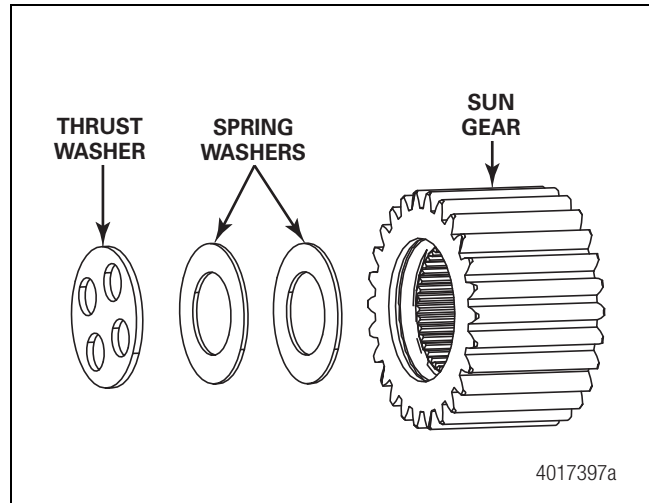
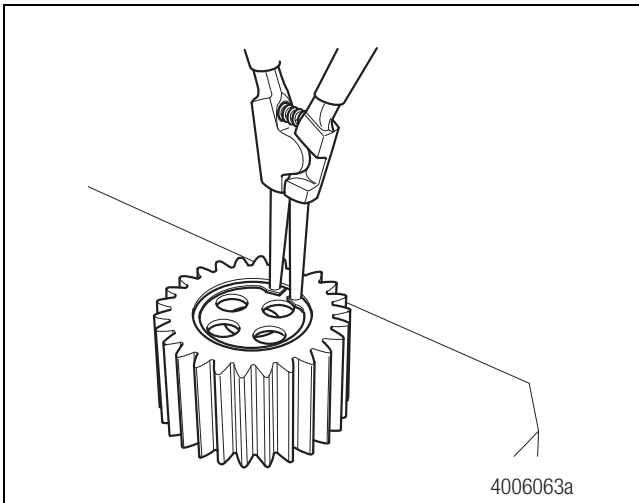

Figure 3.5
Figure 3.4
10. If it is necessary to disassemble the sun gear assembly to inspect or replace parts, use appropriate snap ring pliers to remove the snap ring then remove the thrust washer and two spring washers. Figure 3.4 and Figure 3.5.